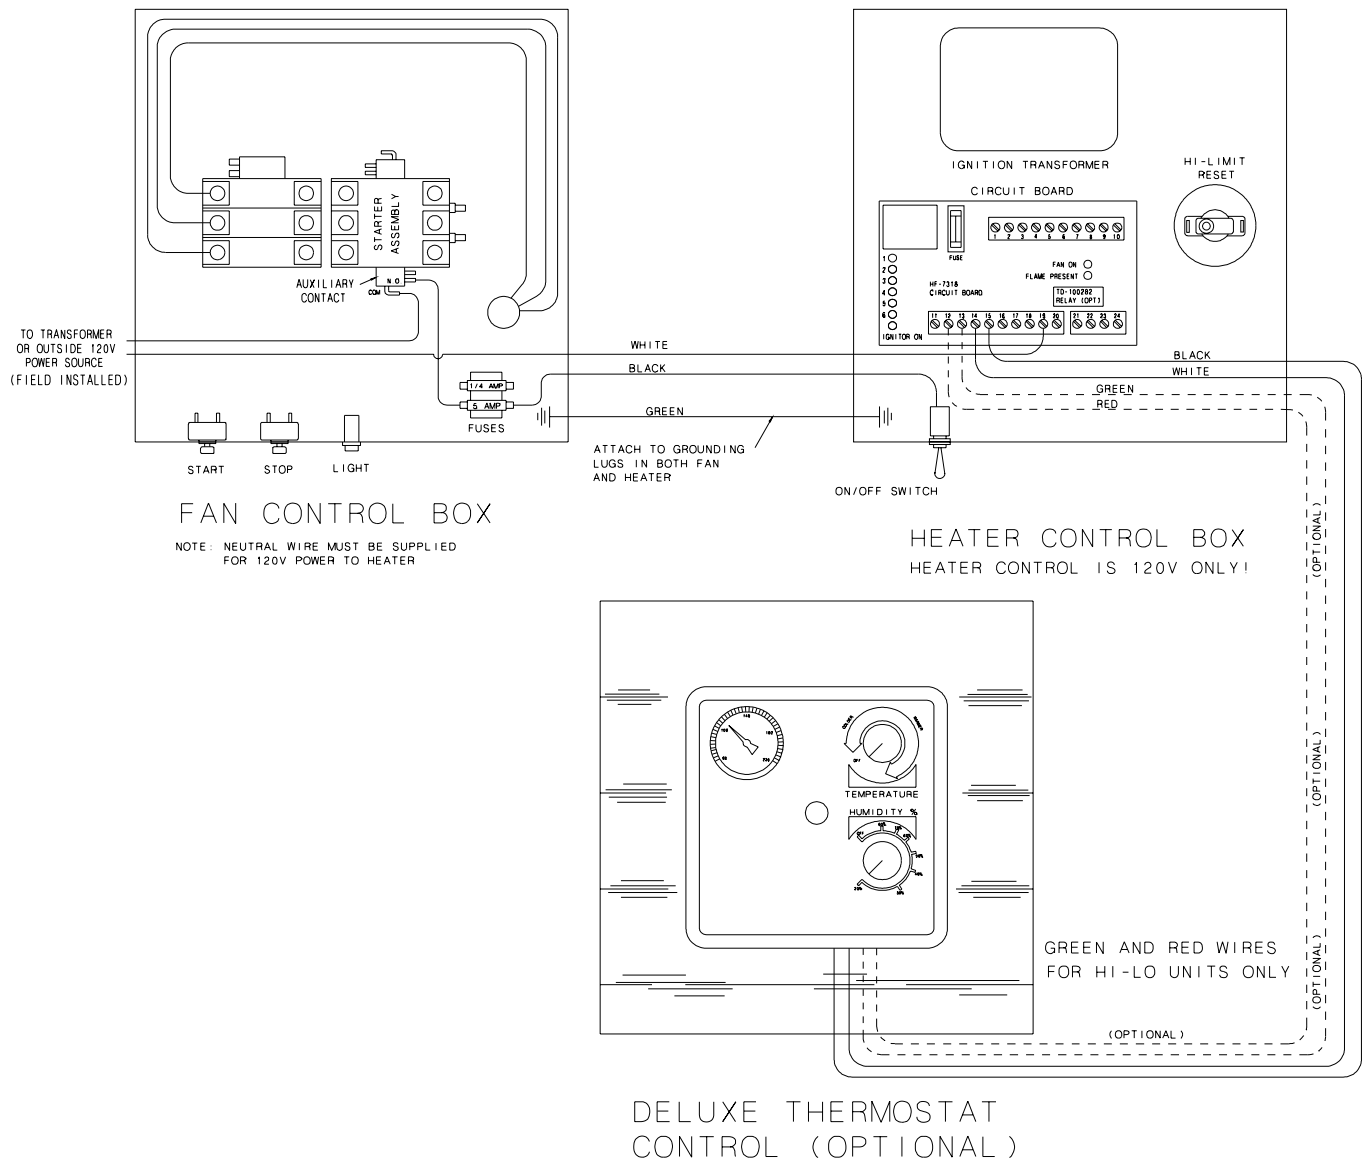

Figure 2: 460 volt fan control box.
2. Make field connections of wires in fan box as shown in Figure 2. 110V power supply or 0.5 kVA 460V to 110V transformer must be used to supply power for heater